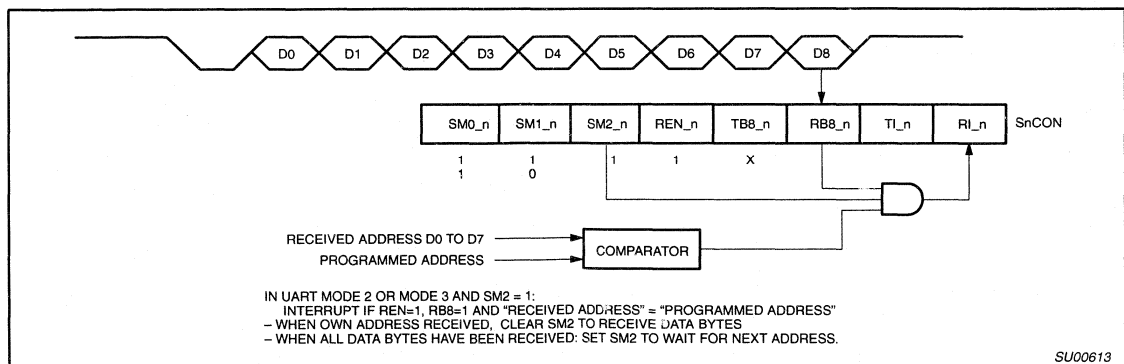

Figure 11. UART Multiprocessor Communication, Automatic Address Recognition
Automatic Address Recognition is a feature which allows the UART to recognize certain addresses in the serial bit stream by using hardware to make the comparisons. This feature saves a great deal of software overhead by eliminating the need for the software to examine every serial address which passes by the serial port. This feature is enabled by setting the SM2 bit in SCON. In the 9 bit UART modes, mode 2 and mode 3, the Receive Interrupt flag (RI) will be automatically set when the received byte contains either the "Given" address or the "Broadcast" address. The 9 bit mode requires that the 9th information bit is a 1 to indicate that the received information is an address and not data. Automatic address recognition is shown in Figure 11.